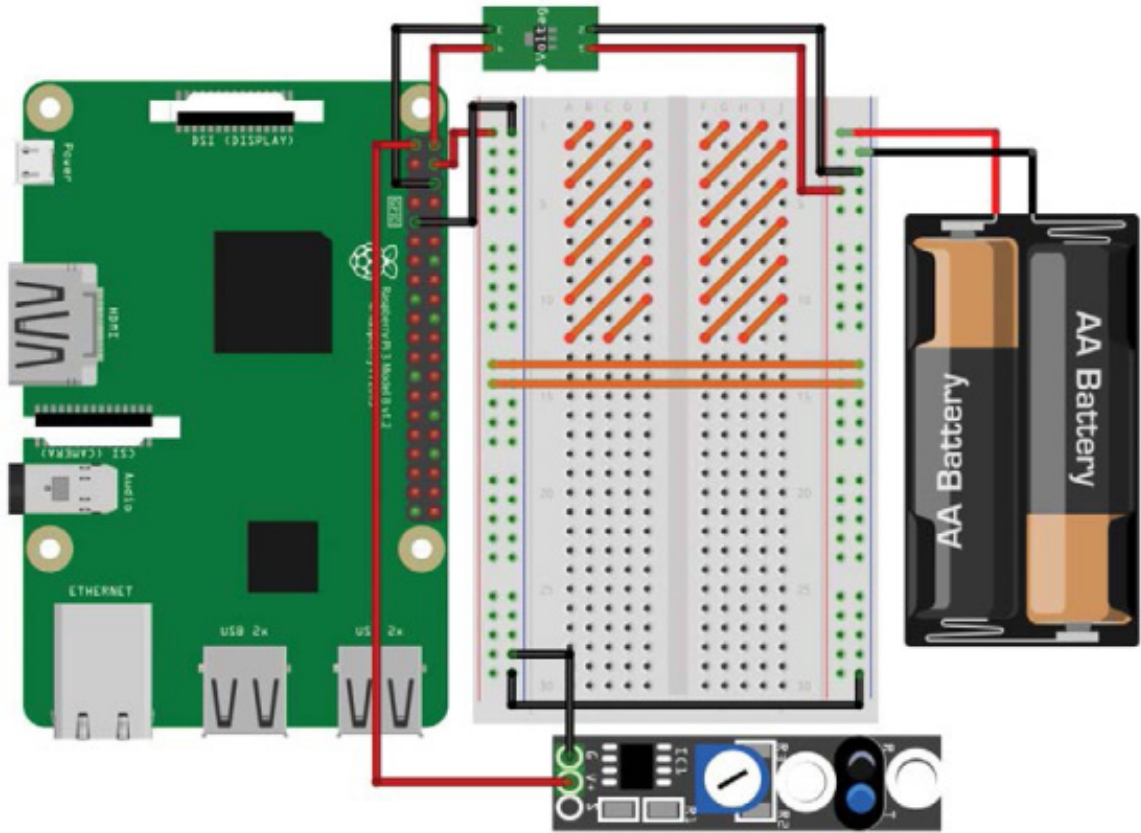

FIGURE 7-11 Line-following sensor connected to +3.3 V and GND
2. Use another jumper wire to connect the GND pin of your module to the common ground rail on your breadboard. So far, your wiring should look like Figure 7-11.